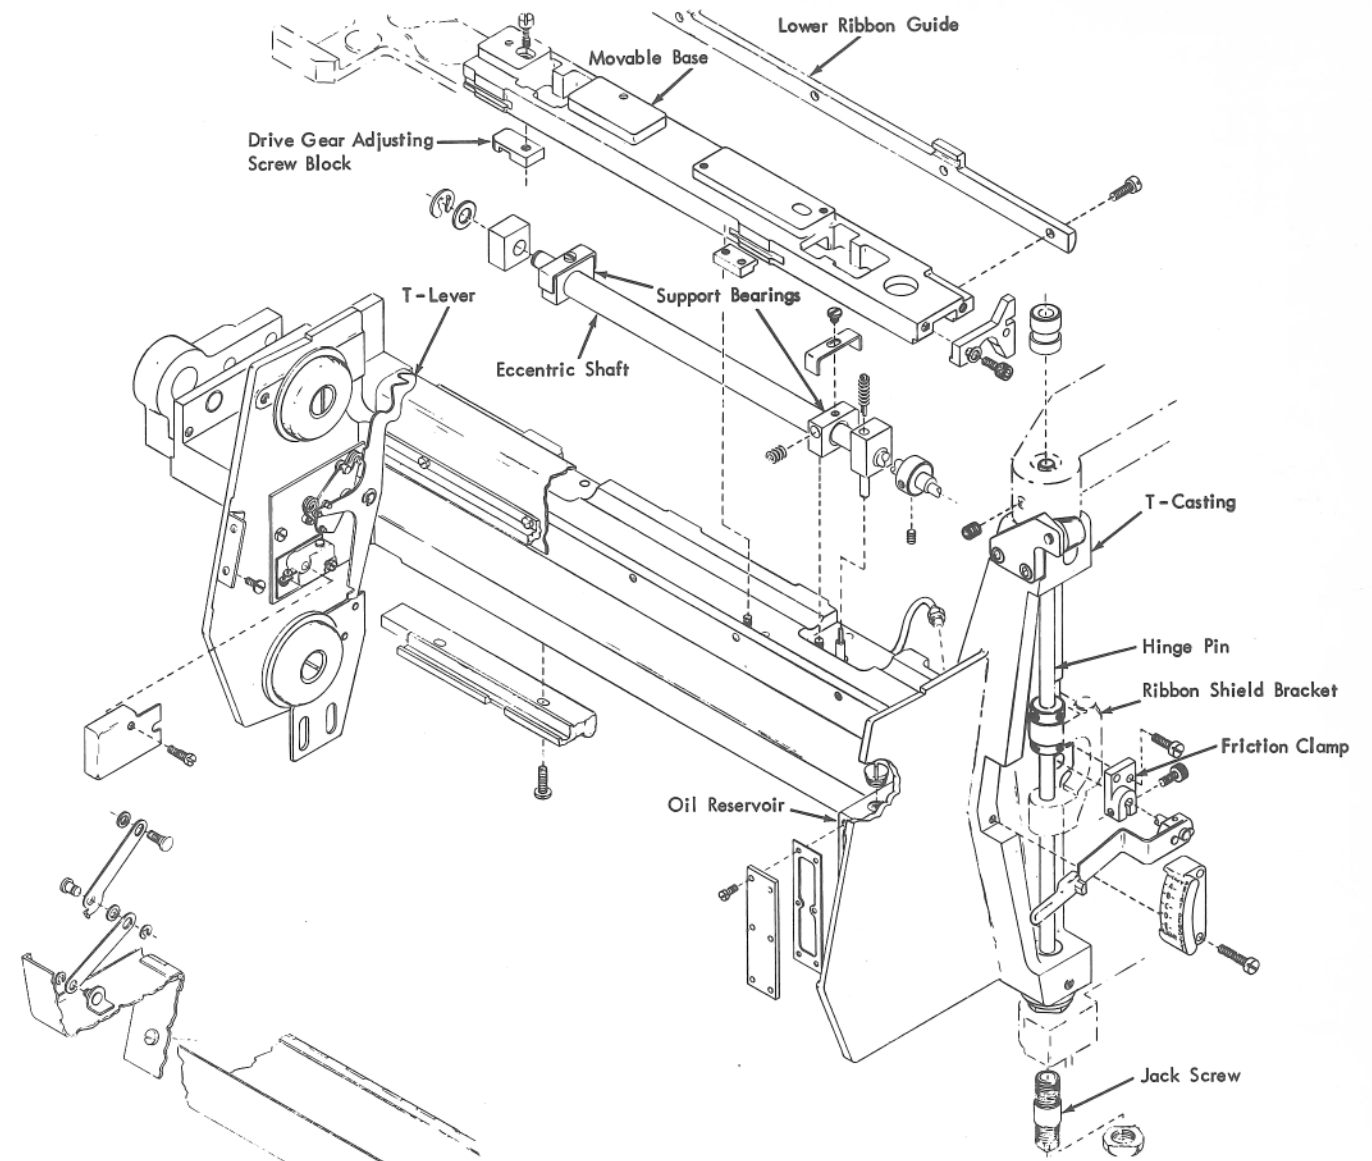

Figure 5. T-Casting
5. Turn the gate latch bumper screw to obtain the correct clearance at the left end. The latch position must be adjusted correspondingly. This adjustment is accessible from the rear of the machine (Figure 5).
Position T-Casting Vertically—Field (Figure 5)